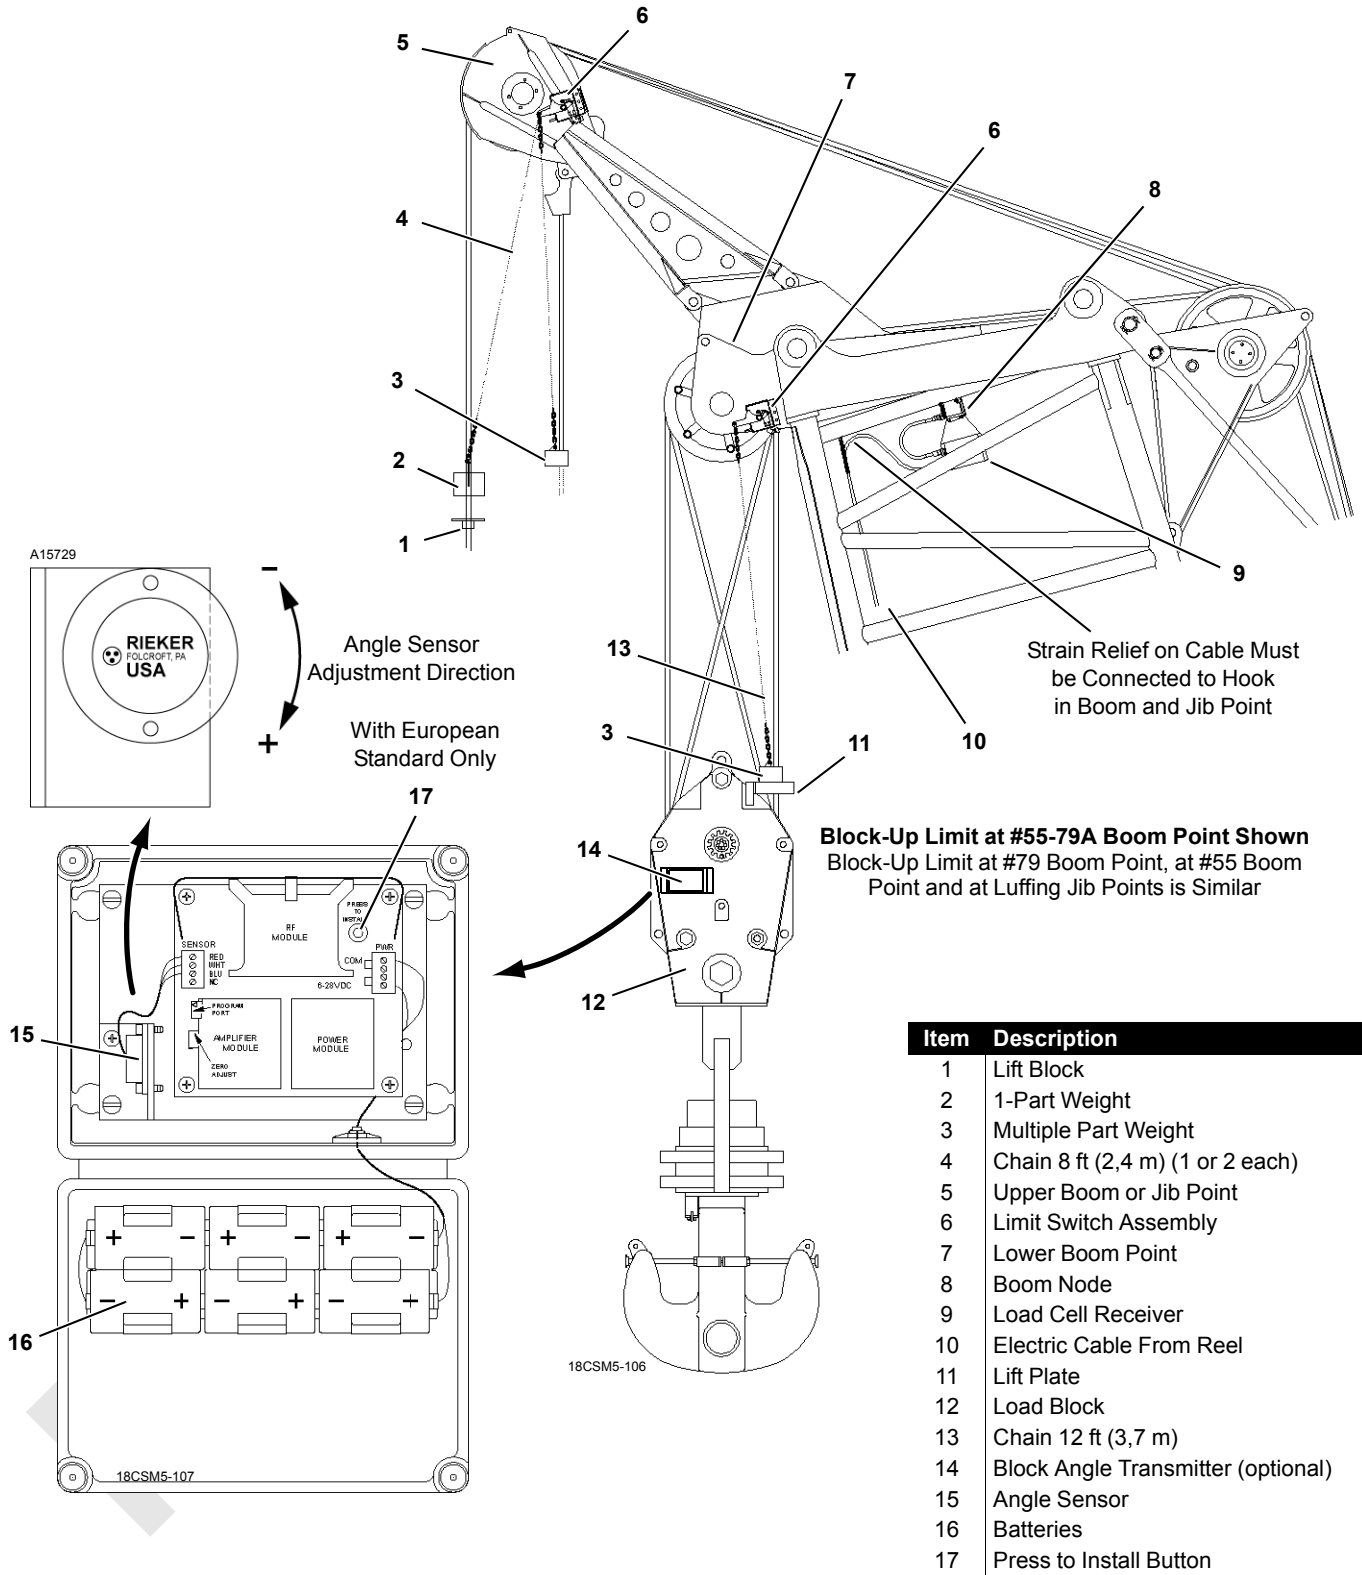

FIGURE 5-6
The block-up limit system consists of the following components (see Figure 5-6):
See Figure 5-6 through 5-10 for component identification.
See Figure 5-6 for the following procedure.
1. The load block level transmitter is mounted on block as shown in Figure 5-6, Item 14. Locate on block where there are no obstructions between transmitter and receiver on boom top.
- c. Loosen screw on each side of sensor (Figure 5-6, Item 15) and turn sensor slightly either way until sensor is zeroed.